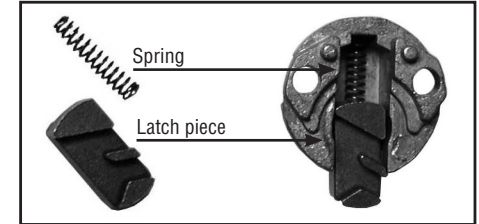

Figure 6
6. Place the spring in the channel of the cap and place the latch piece over it. (Fig. 6)